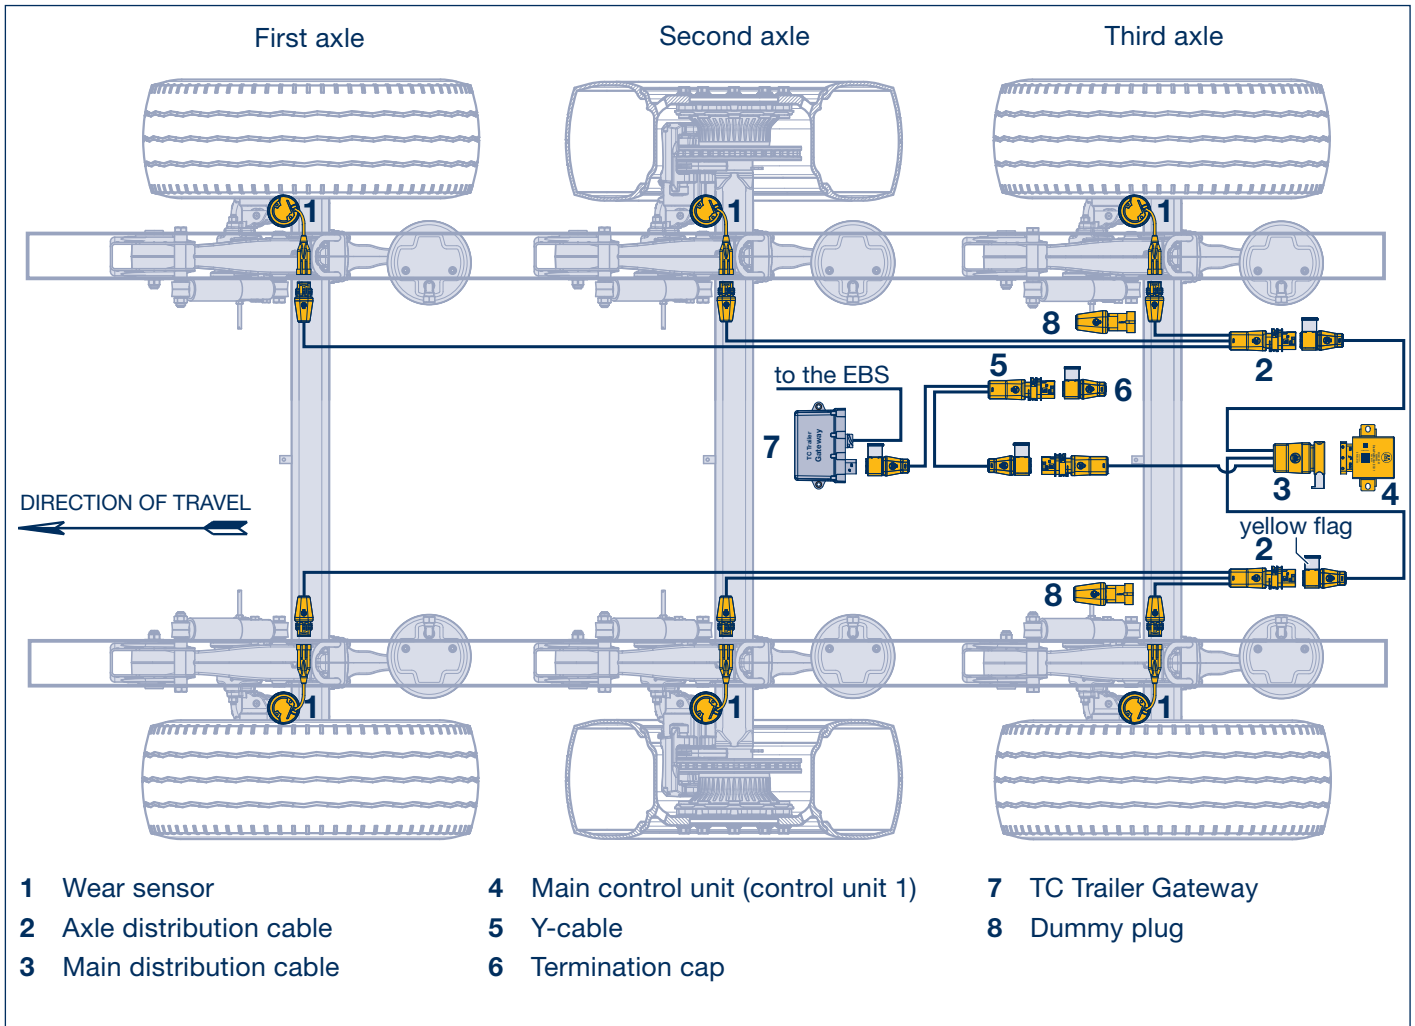

Figure 1
- [1] Mount the wear sensors (1) on the brake calipers. Route and mount the sensor cables (see pages 8 - 9).
- [2] Place the axle distribution cables (2) in the frame and connect to the wear sensors. Always begin cable routing with the longest cable for axle 1 (Figure 1 on page 11), then continue towards axle 3.
- [3] Free cable plugs on the axle distribution cables must be fitted with dummy plugs (8).
- [4] Connect the main distribution cable (3) to the two axle distribution cables. Connect the axle distribution cable on the left side of the vehicle to the cable end of the main distribution cable indicated with the yellow flag.